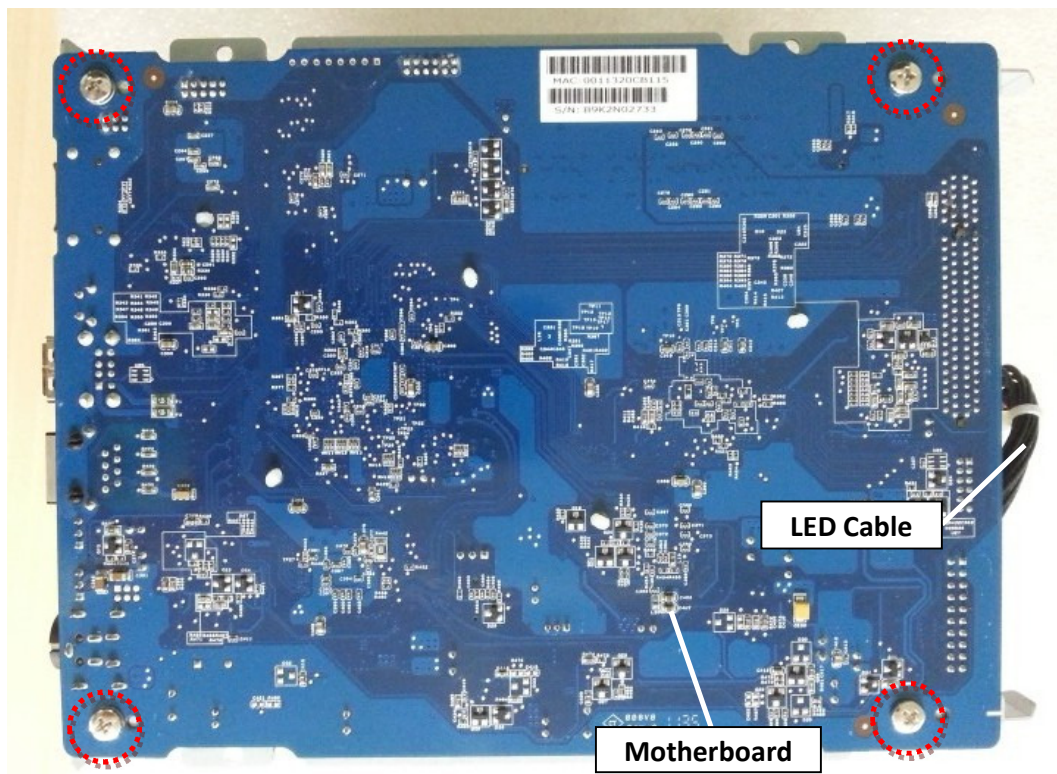

Fig. 69 – Top View
3.2.2 Fix the four (4) screws (Marked by the red circles) to secure the motherboard. (Fig. 69)